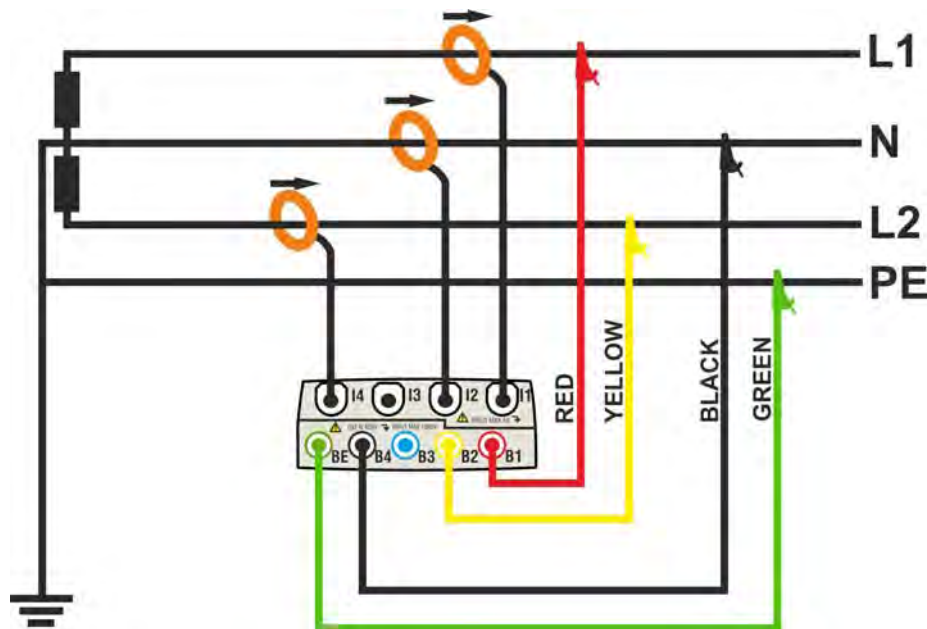

Fig. 147: Meter connection in a two phase 3-wire 1PH3W system – ENG_UK type
2. Connect voltage test leads on Phases L1, L2, N and PE cables considering the colours as shown in Fig. 147
3. Connect the transducer current clamps on Phase L1, L2, N cables as shown in Fig. 147 respecting the clamp's arrow direction indicating the current standard sequence from generator to load. **On Real Time Values' section screens (selecting a 3 wire system preliminarily) always verify the positive value of Active Power and the power factor relative to load which should be normally inductive** before starting a recording. Reverse the clamp by 180 degrees on cables in case of negative readings.